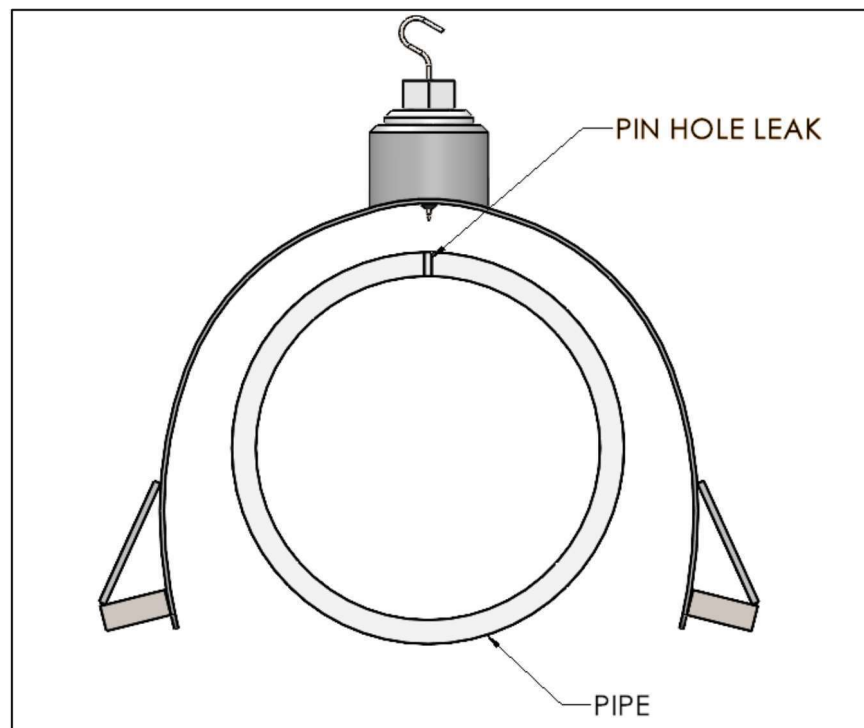

Figure 3
2. Remove the drawbolt from the slotted holes on the bottom of the PLIDCO Smith+Clamp and spread the PLIDCO Smith+Clamp open so that it can be assembled around the pipe as shown in Figure 3.